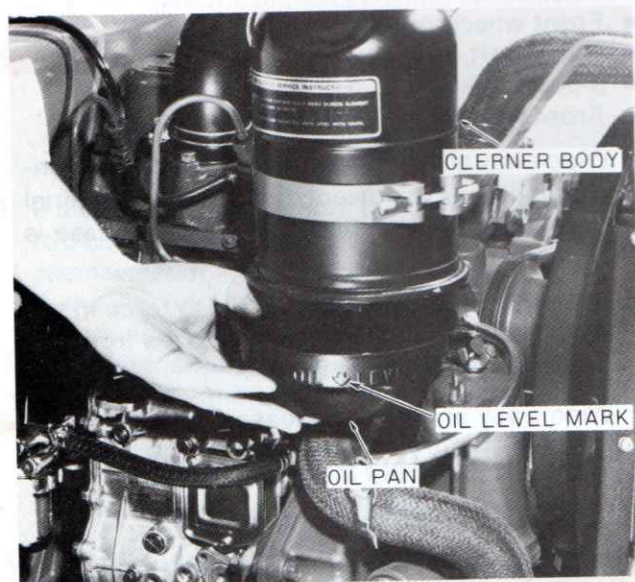

Figure 38 — Air Cleaner
1. Release the oil pan retaining clip and remove the oil pan, Figure 38.
Cleaning the Air Cleaner Body: The oil bath cleaner, Figure 38, should be removed from the tractor, disassembled, and cleaned every 600 hours.